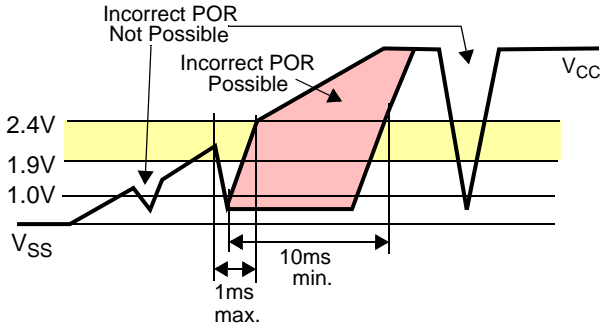

FIGURE 4. V_{CC} POWER-ON BROWN-OUT CONDITION
3. Noise or voltage direction changes are especially significant when V_{CC} is in the range of 1.9 to 2.4V. See Figure 4.
4. If the voltage on V_{CC} reaches 1.9 to 2.4V, but has not reached 2.7V, and then falls to less than 1V, it must recover to 2.4V within 1ms or remain below 1V for more than 10ms. This is a "brownout" condition. A brown-out condition that happens before V_{CC} reaches the 1.9 to 2.4V region or when V_{CC} is greater than 2.7V always retains the proper configuration. See Figure 4.